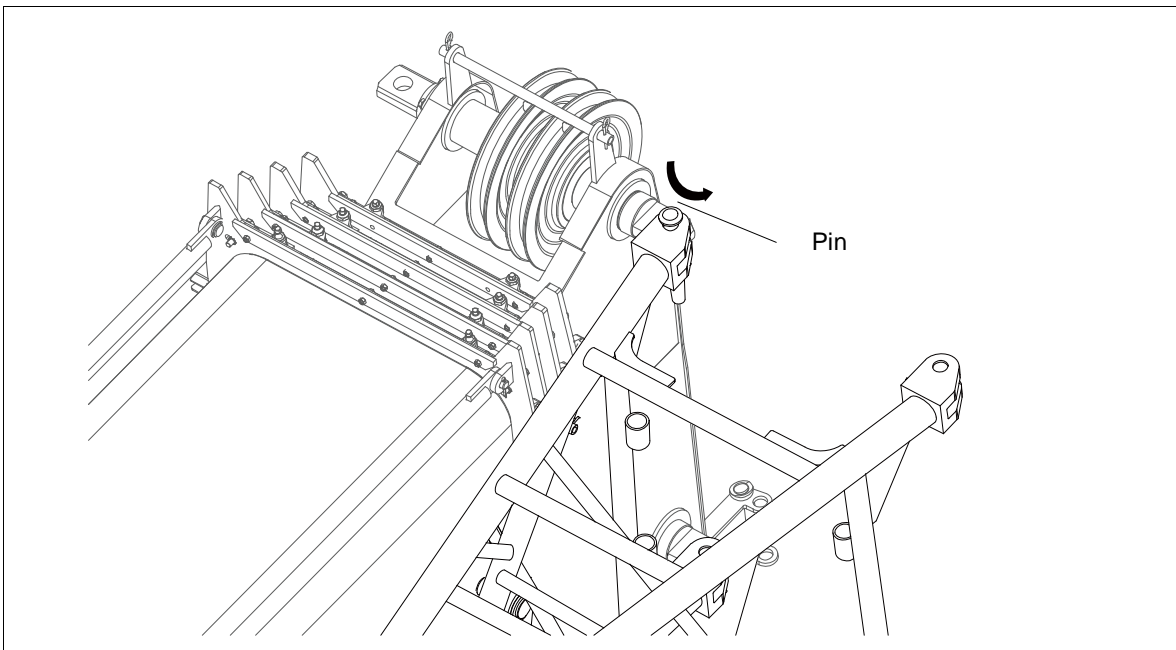

Figure 7-40 Move the jib
- M. Move the jib (pivots on pin V) to the front of the main boom. Refer to Figure 7-40.